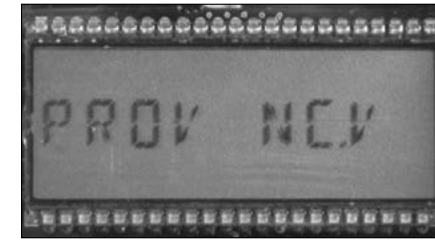

Figure 6 - LCD screen displays PROV NC.V
- Swipe the magnet across the "swipe" line until the screen displays **PROV NC.V** (Figure 6), and then stop swiping.